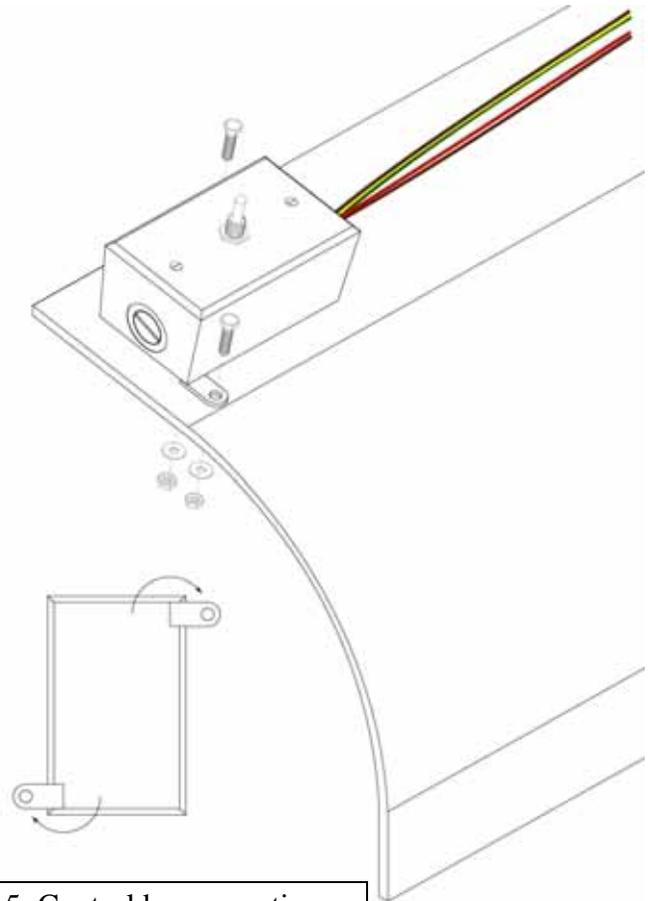

Figure 5: Control box mounting
3. The control box now needs to be mounted in a location that is easily accessible for operation. Insert bolts through the metal tabs on the back of control box for optimal mounting. See Figure 5 on page 6.